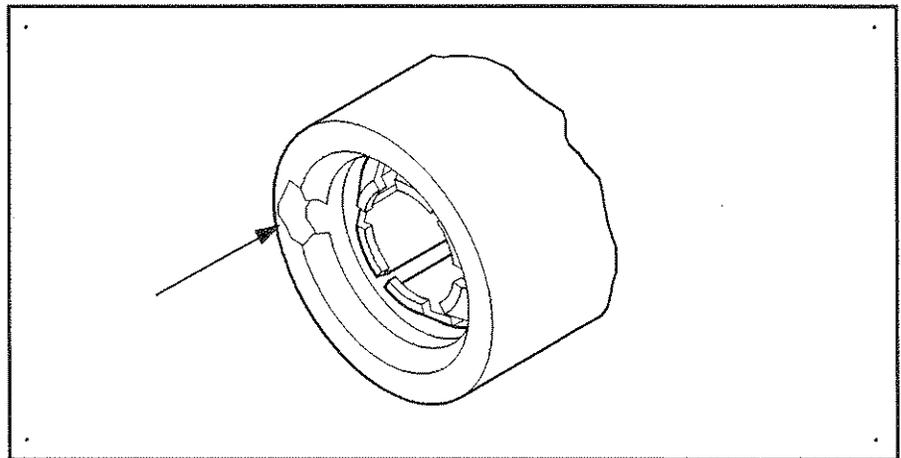

Figure A-7. Damaged Center Conductor
- The end of the center conductor appears dented or scraped near where it touches the inner contact (see Figure A-7).